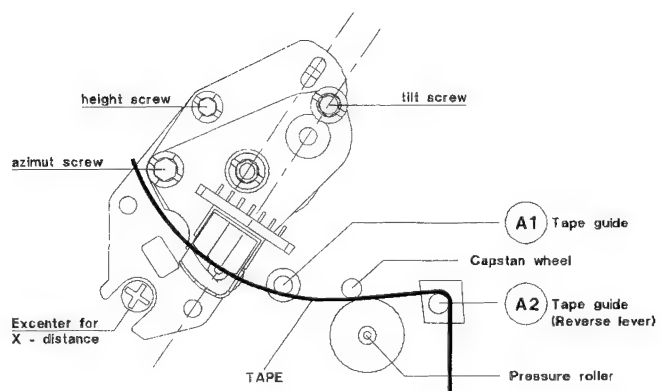

Fig. 19
- By means of the tilt angle adjusting screw move the tape until the lower edge just touches the tape guide A1 (see Fig. 19) the tape must not be distorted at the lower edge (by pressing onto guide).
- By means of the tilt angle adjustment screw move over the tape until the lower edge just touches the tape guide A2 (see fig. 19) (by pressing onto guide). After that turn the tilt angle adjustment screw anticlockwise for 60° - 90° (The tape must not touch guide A2).
- Adjust to maximum output voltage by means of the azimuth adjustment screw (Fig. 19).
- Display the TRIV signal on an oscilloscope (DC-coupled) and adjust for maximum voltage by means of the eccentric screw (Fig.19).